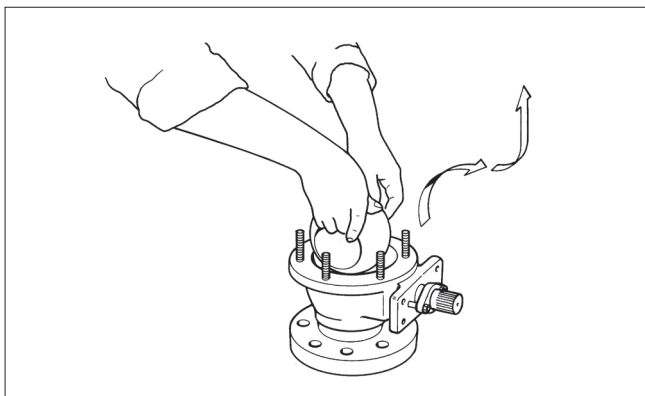

Fig. 16 Removing the ball
- Lift the ball (3) from the body (1) by gripping by the flow bore (small sizes) or by passing a rope through the flow bore and turning it at the same time around the flow bore axis. Handle the ball carefully and place it on a soft surface. See Fig. 16.